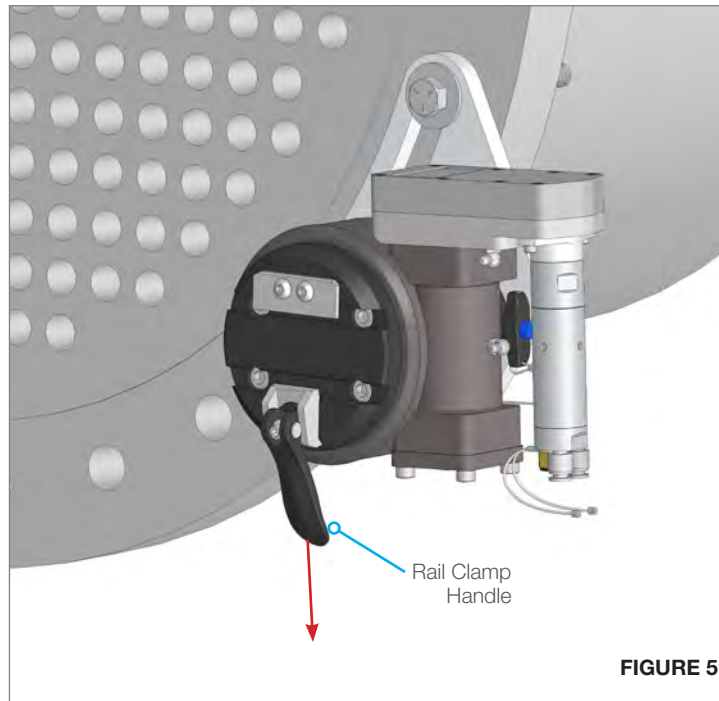

FIGURE 5
6. To make installation of the Rail and the Linear Drive easier, the Rail Clamp Handle should be facing down but is not required. In order to change the orientation of the handle, connect the air hoses from the Control Box to the Rotary Drive as shown in the next step. **(Figure 5)**